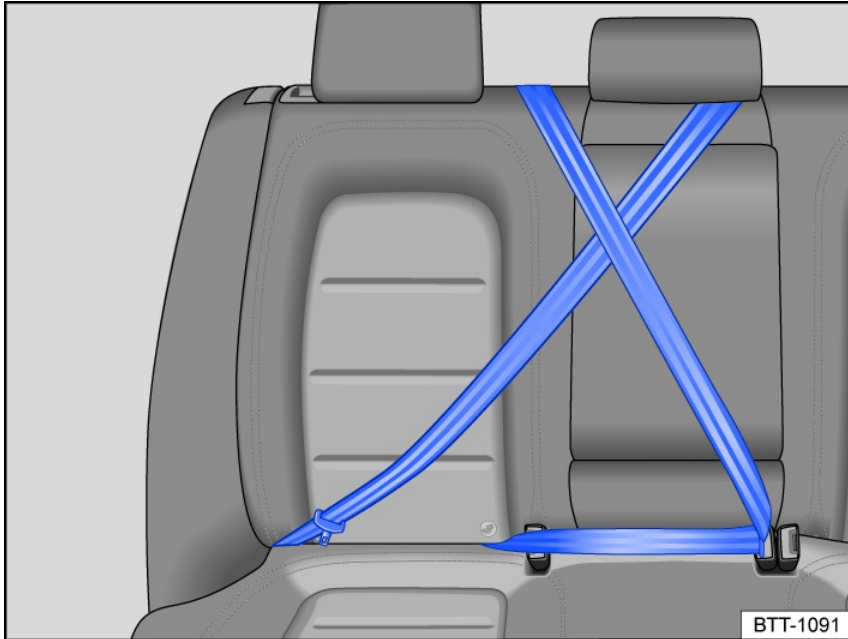

Fig. 44 Keep any safety belts that are not being used away from children.
- Position the safety belt around the head restraint of the center seating position fig. 44.
- Fasten the safety belt fig. 44.